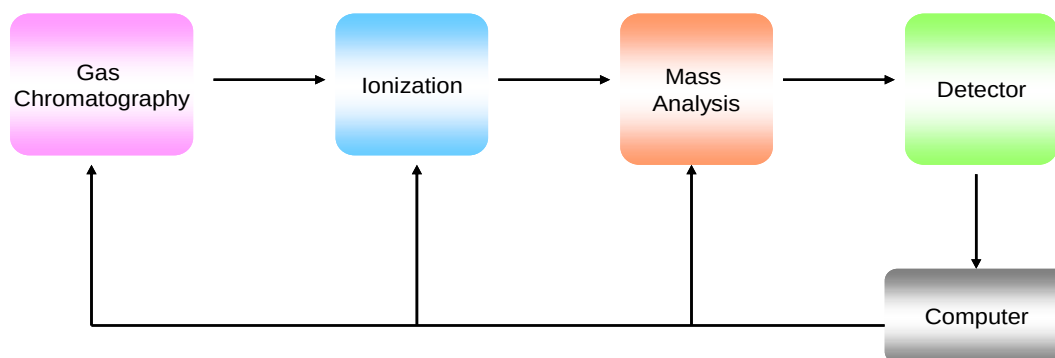

Figure 1. Block diagram of the basic components of a GC-MS instrument.
Mass spectrometry (MS) is a technique in which the analysis is conducted on gas phase ions. These ions are manipulated through a mass analyzer and pass through to a detector. The basic components of a GC-MS instrument are shown in Figure 1.